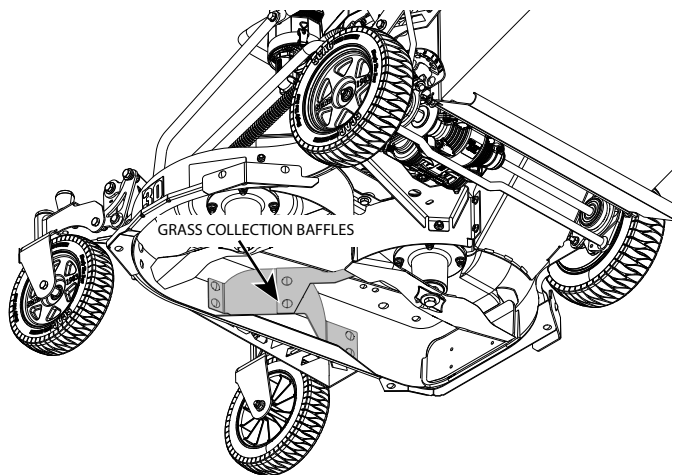

Figure 6-5. Grass Collection Baffle
1. Lift the rear cover and remove the grass collection bag from the mower. See Figure 6-5.
2. Insert the rear discharge plug into the cutter deck. See Figure 6-5.